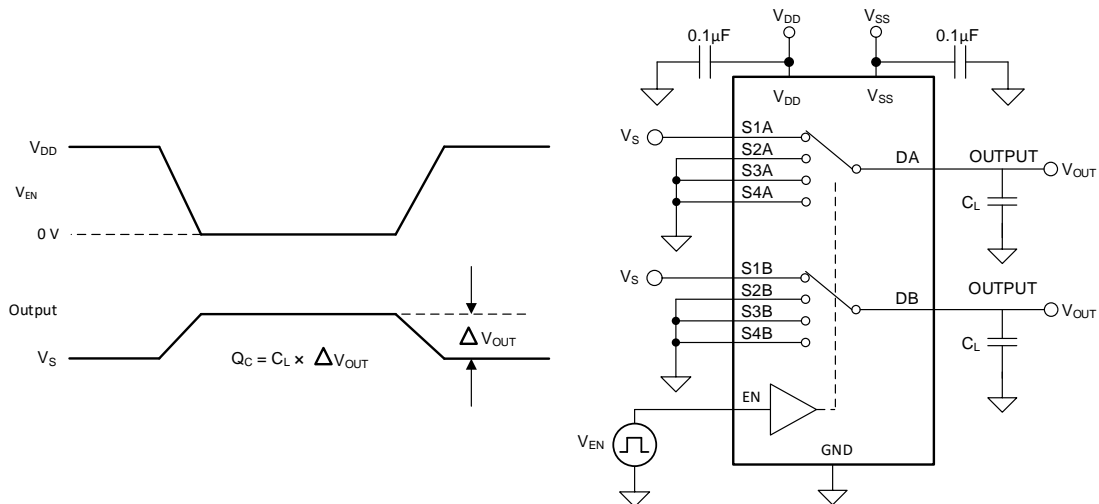

Figure 24. Charge-Injection Measurement Setup
The TMUX1109 has a transmission-gate topology. Any mismatch in capacitance between the NMOS and PMOS transistors results in a charge injected into the drain or source during the falling or rising edge of the gate signal. The amount of charge injected into the source or drain of the device is known as charge injection, and is denoted by the symbol Q_C . Figure 24 shows the setup used to measure charge injection from source (Sx) to drain (D).